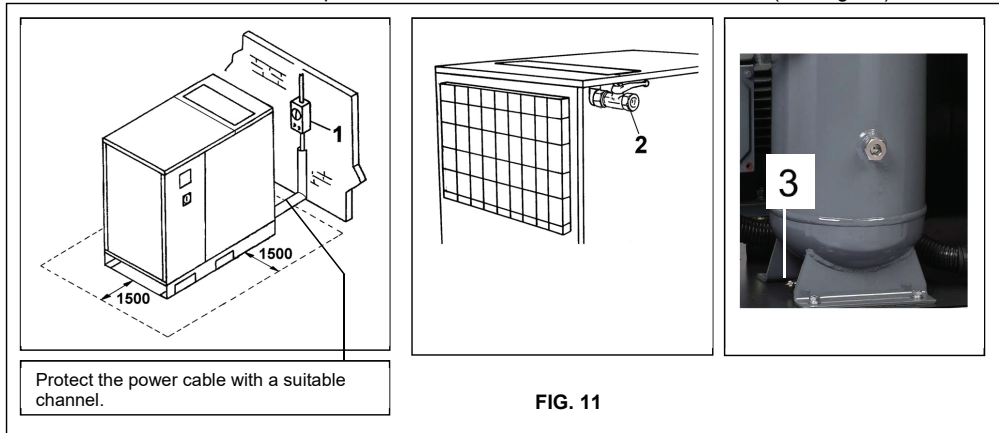

FIG. 11
- ensure that there is sufficient space around the machine to allow maintenance (see Fig. 11).
Fit a manual isolation valve Ref. 2 Fig. 11 between the machine and the compressed air network so that the compressor may be isolated during maintenance operations.
Condensate must be drained Ref. 3 Fig. 11 from the oil receiver (manually) in conformity with the local regulations in force.